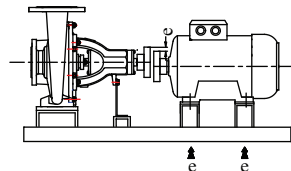
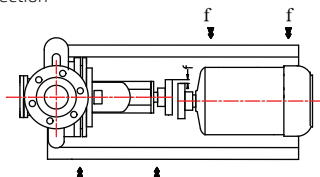

Figure 4: Parallel axis misalignment in vertical plane and its correction
Figure 6: Parallel axis misalignment in horizontal plane and its correction
1. Parallel Axis Misalignment (Figure 4 - Figure 6).